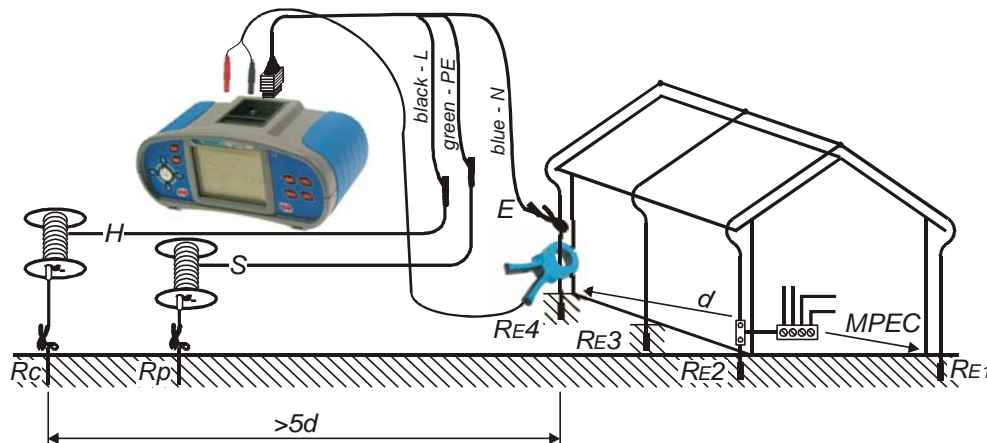

Figure 5.35: Resistance to earth, measurement with a current clamp
- ❑ **Connect** test leads and clamp to the tested object (see figure 5.35).